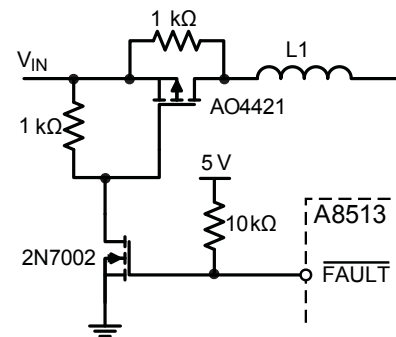

Figure 13. typical circuit for input disconnect switch.
**Undervoltage Protection** The OVP pin is also used to detect output undervoltage protection (UVP) against  $V_{OUT}$  short to GND. When the UVP fault is tripped, the fault flag is set (figure 12). Using an external PMOSFET interfaced to the  $\overline{FAULT}$  pin (figure 13), the user can disconnect the IC from  $V_{IN}$  during a fault event.